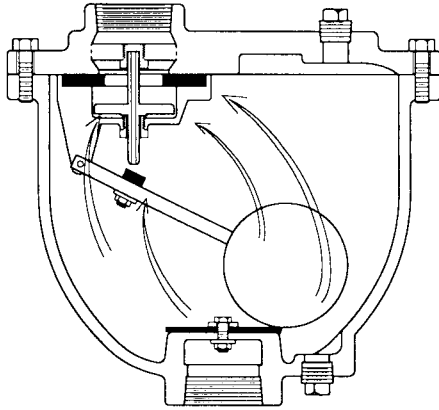

FIGURE 2. Air Exhausted During Pipeline Fill
1. During system start-up, the open valve will exhaust large quantities of air until fluid enters the valve. The float will then rise and press the orifice button, located on the float arm, against the plug stem and raise the plug. Pressure within the valve body will force the plug upward tightly against the seat. See Figure 2.